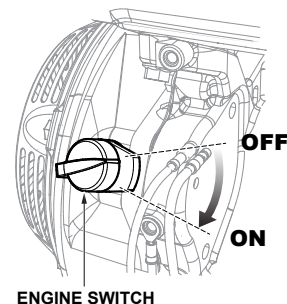

Figure 23. Engine ON/OFF Switch (ON)
5. Turn the engine switch (Figure 23) to the **ON** position.